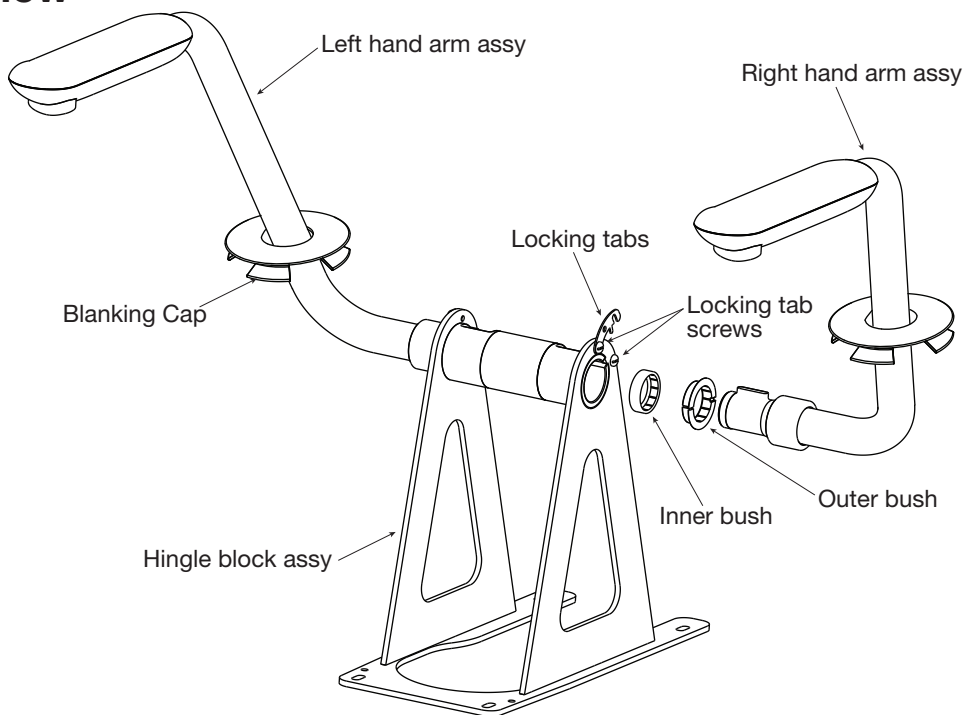

Fig. 1
1. Unpack and check all components as shown in **Fig. 1** above are supplied and unmarked. Fit unconnector into drainline if required before installing hinge block assembly (refer to pan installation instructions.)